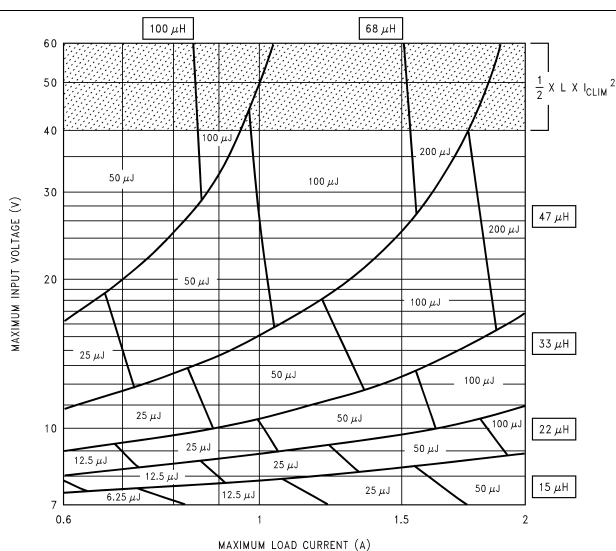

Figure 29. LM2592HV-5.0
- A first pass inductor selection is based upon *Inductance and rated max load current*. Choose an inductor with the inductance value indicated by the nomograph (see Figure 29) and a current rating equal to the maximum load current. We therefore quick-select a 68- μH , 1-A inductor (designed for 150-kHz operation) for this application.
- Confirm that it is rated to handle 50 μJ (see Figure 29) by either estimating the peak current or by a detailed calculation as shown in AN-1197 (SNVS038). Also, confirm that the losses are acceptable.
- A first pass inductor selection is based upon *Inductance and the switch current limit*. We choose an inductor with the Inductance value indicated by the nomograph (see Figure 29) and a current rating equal to I_{CLIM} . We therefore quick-select a 68- μH , 4-A inductor (designed for 150-kHz operation) for this application.